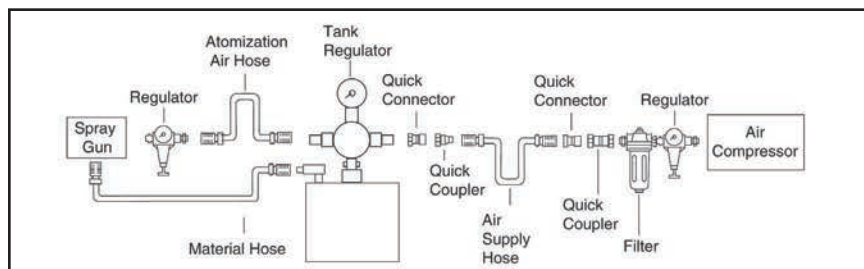

Figure 3. Paint tank connect to air compressor and spray gun.
7. Install a pressure regulator (not included), between the tank regulator, (**Figure 3**) and the spray gun, since some of the pressurized air from the compressor will bypass the tank regulator.
Figure 3 depicts the paint tank connected to a compressed air system with a filter/regulator unit and a spray gun.